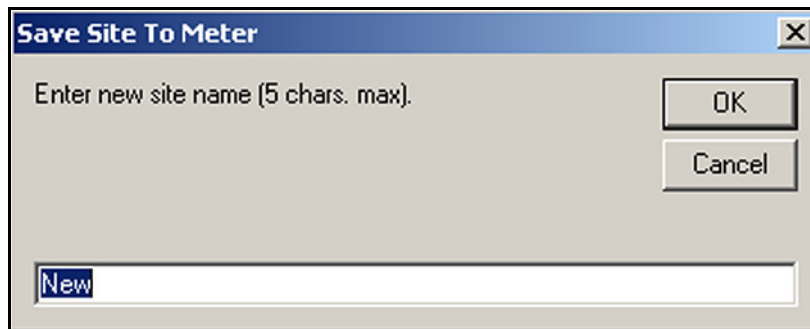

Figure 33: Site Name Screen
2. A window opens similar to *Figure 33* below. Enter the desired name, and click [OK].